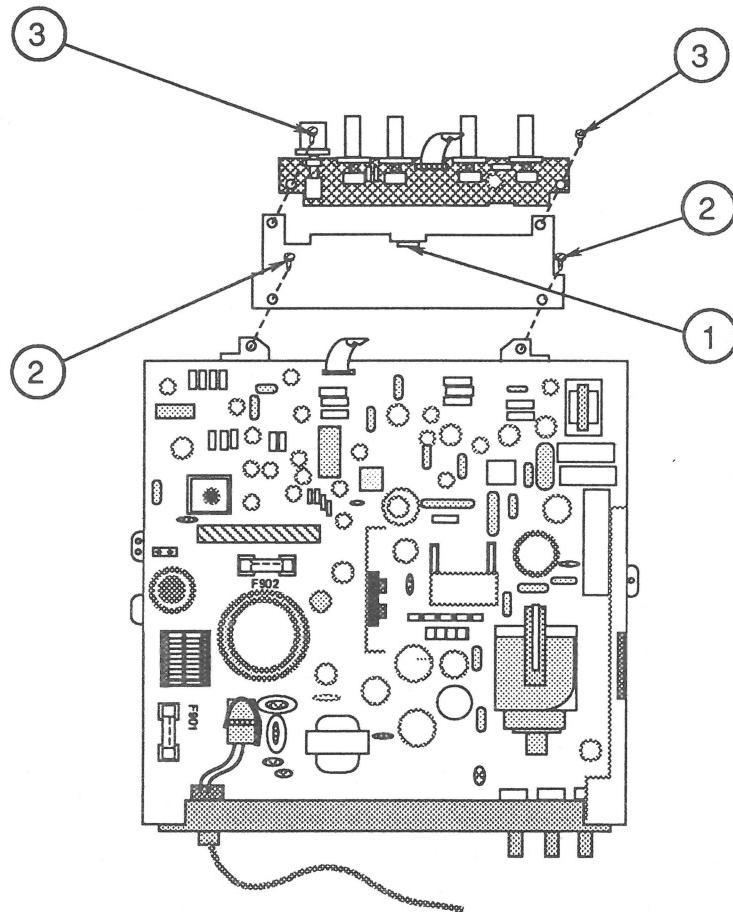

FIGURE 43
- a) With the tab (Figure 43, #1) pointing up, align the holes on the smooth side of the bracket with the holes on the tabs projecting out of the metal frame.
- b) Install the two screws (Figure 43, #2) that secure the extension bracket to the metal frame.
- d) Install the two screws (Figure 43, #3) that secure the control PCB to the extension bracket.